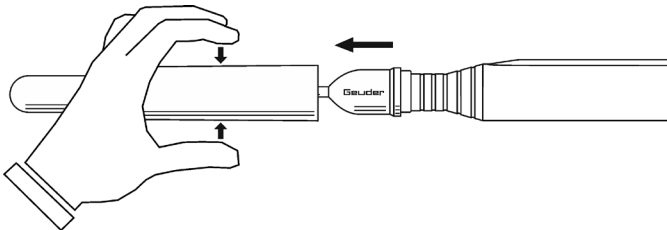

Fig. 2
- Remove the test anterior chamber from the ultrasonic handpiece according to fig. 2.
- Grasp the test anterior chamber according to fig. 2 and remove it from the infusion sleeve.